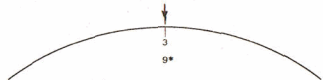

Figure 15
**Example:**  $3^2 = 9$  (Figure 15)